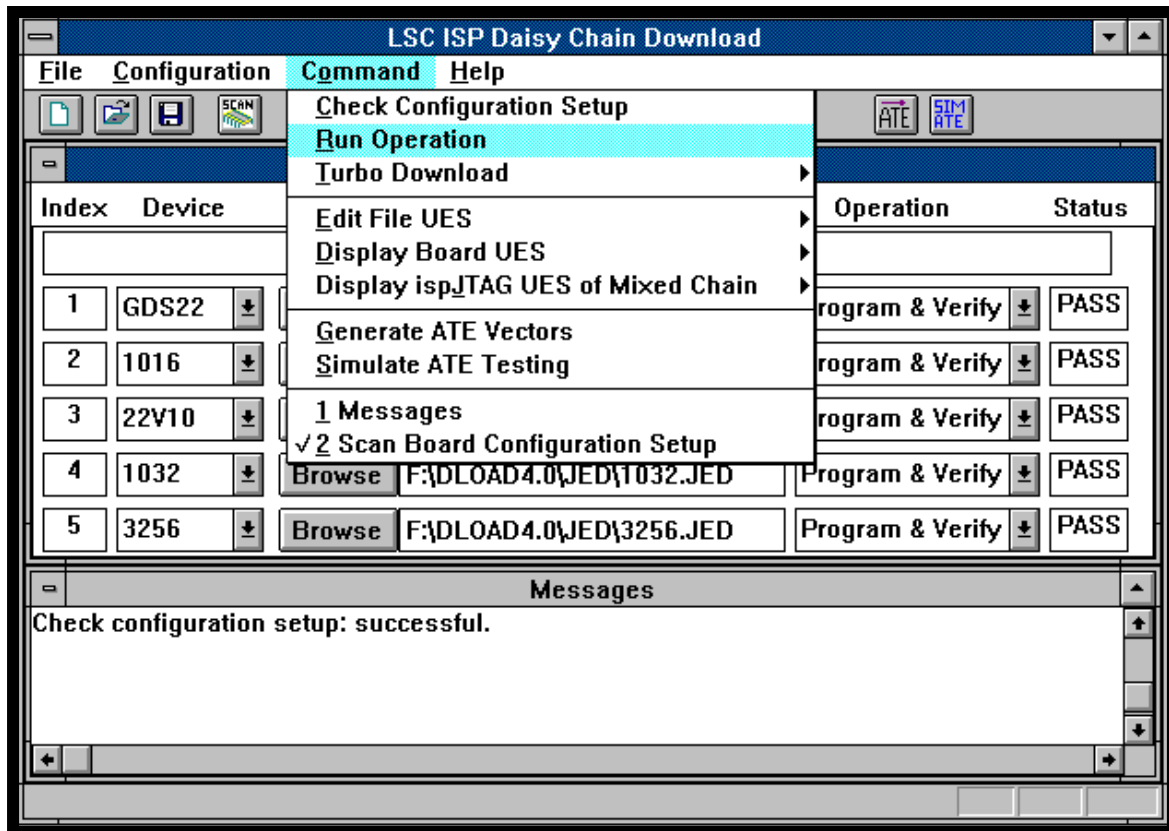

Figure 3-12. **Command** ⇒ **Run Operation** Menu Option
1. Select **Command** ⇒ **Run Operation** or click the **Run** icon from the ISP Daisy Chain Download menu to program the device with your design file (Figure 3-12).